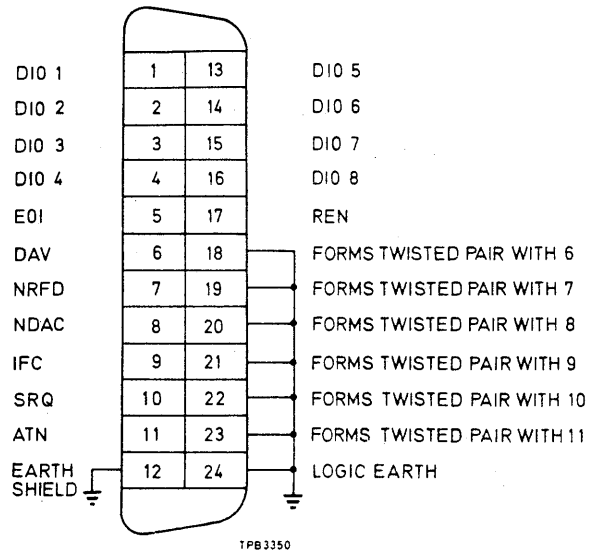

Fig. 7 GPIB connector contact assignments
54. The contact assignment of the GPIB cable connector and the device connector is as shown in Fig. 7 below.